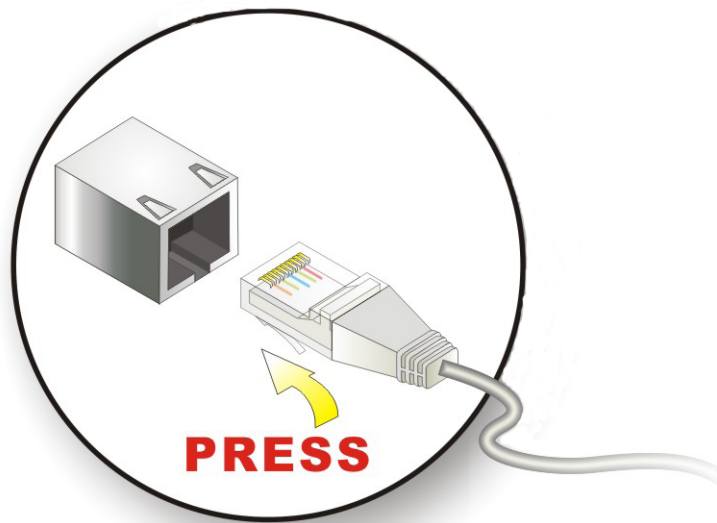

Figure 5-14: LAN Connection
Step 2: Align the connectors. Align the RJ-45 connector on the LAN cable with one of the RJ-45 connectors on the 3308490. See **Figure 5-14**.